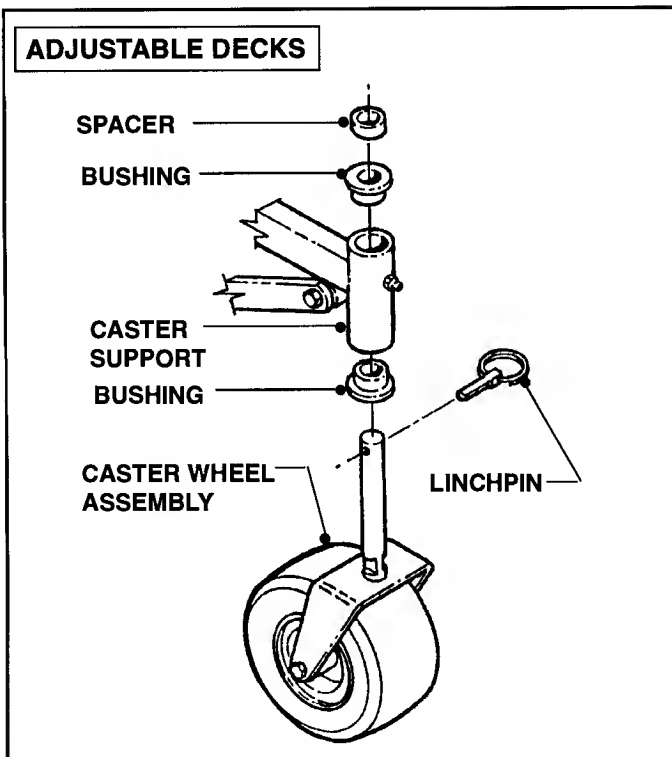

FIGURE 3.6
F. Remove both Caster Wheel Assemblies. See Figure 3.6. Deck frame weldment can now be repaired (see 3.6, Caster Support Repair) or replaced with a new part.
- Install new bushings (Part No. 2-3556) in each caster support. Seat each bushing using a rawhide mallet. Refer to Figure 3.6.